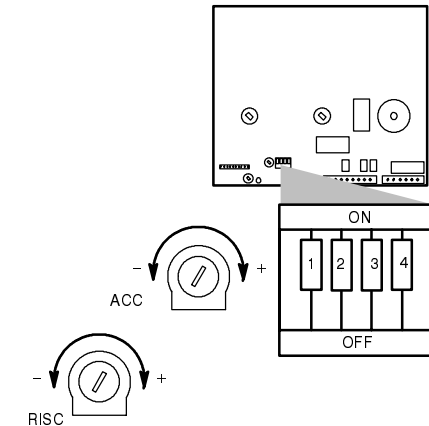

fig. 4.10
- 6 Check that the boiler lights up uniformly and adjust the flame height, if necessary. To adjust the ignition, set dip-switch "3" (fig. 4.10) to the OFF position and adjust potentiometer marked "ACC" with a screwdriver until correct lighting up is obtained (refer to tab. 4.1). Having finished this procedure, reset dip-switch "3" to the ON position.
Use a suitable screwdriver to turn the adjustment potentiometer marked "RISC" (fig. 4.10). Rotating the potentiometer anti-clockwise reduces the maximum supply current to the gas modulator device, and thus reduces the gas pressure to the burner.